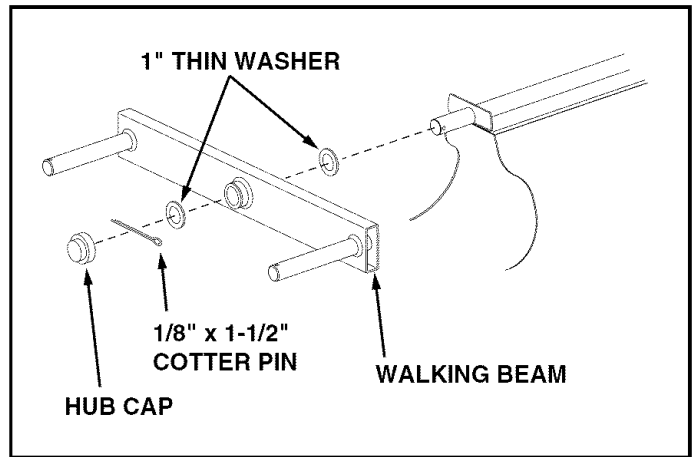

FIGURE 11
21. Assemble a 1" thin washer, a walking beam and another 1" thin washer onto the pivot axle. Insert a cotter pin into the axle and spread the ends. Press a hub cap onto the flat washer. Repeat on the other end of the pivot axle. See figure 11.